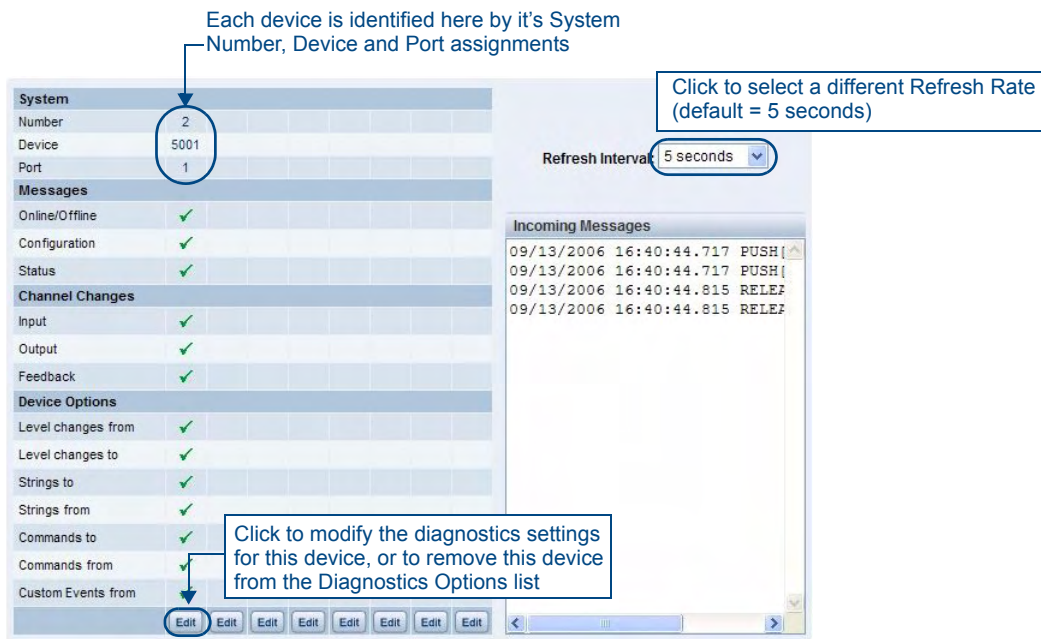

FIG. 34 Edit Options window
- The device that you just enabled diagnostics for appears in the Diagnostics Options page (identified by its Number, Device and Port assignments at the top of the Diagnostics Option list), with the currently enabled diagnostics indicated with a green checkmark (FIG. 34).